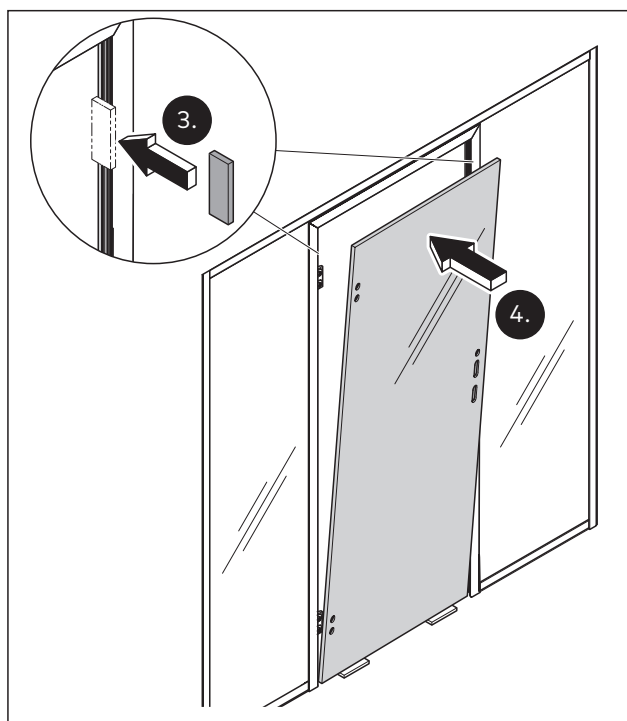

Fig. 51 Use the spacers when mounting the door and align the glass door
3. Vertically ensure a clearance of $3.5\text{ mm} \pm 0.5\text{ mm}$ between glass door and door frame with spacers (Fig. 51).